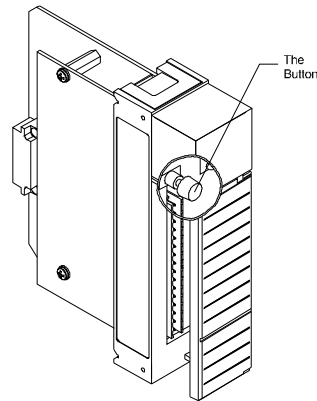

FIG. 5-3 “THE BUTTON” C2 CALIBRATION
- Step 2. Open the front door of the HI 1746-WS module. (See Fig. 5-3)